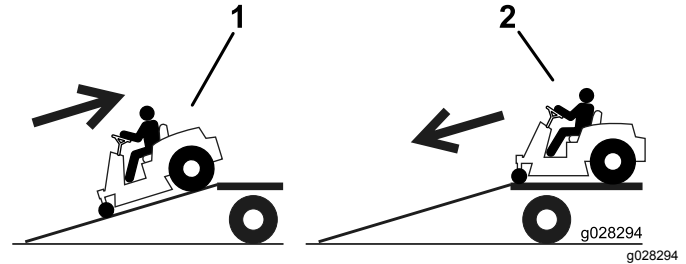

Figure 22
4. Back the machine up the ramp (Figure 22).
2. Drive the machine forward down the ramp (Figure 22).